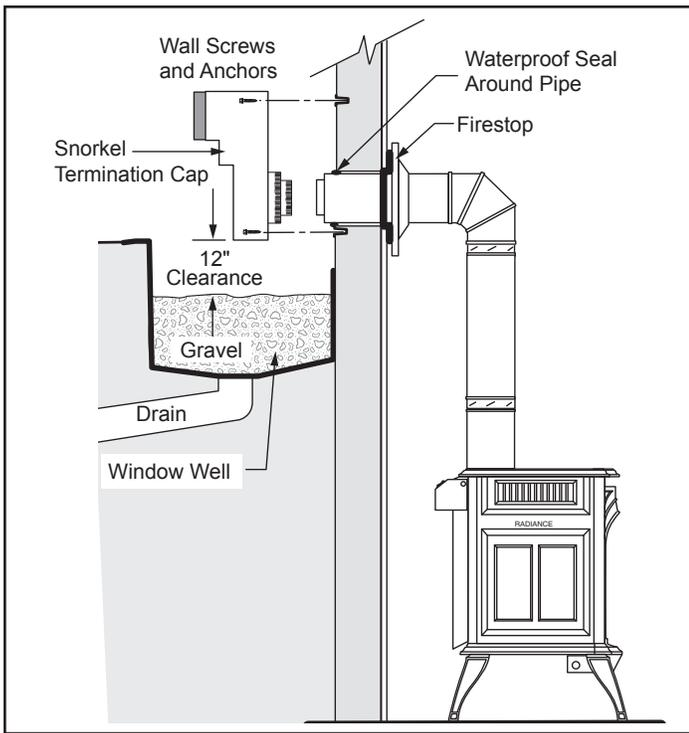

Figure 3.16 - Snorkel kit installation.
- Remove soil to a depth of approximately 16" (406 mm) below the base of the snorkel. Install a window well (not supplied). Refill the hole with 12" (305 mm) of coarse gravel and maintain a clearance of at least 4" (102 mm) below the snorkel, Figure 3.16.